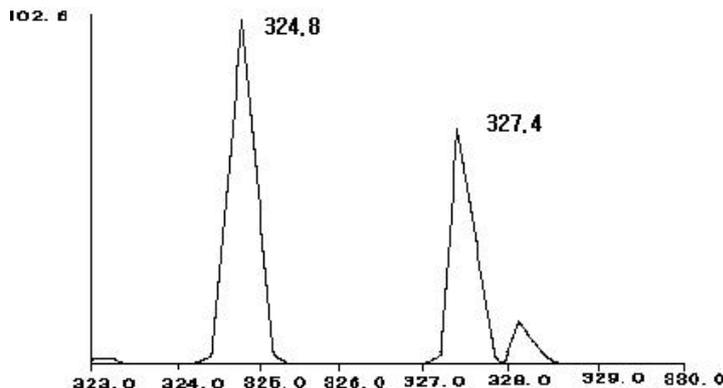
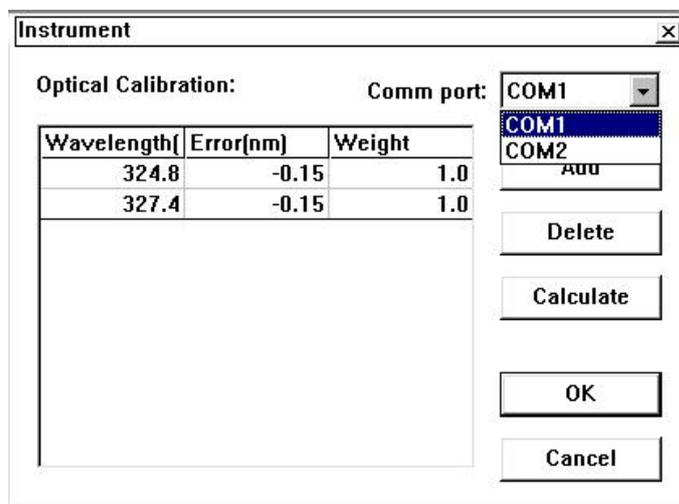

Fig. 6-1
Fig. 6-2
(1) Wavelength displacement. Solving method: Adjusting methods: Power on Cu lamp and set the lamp current to be 3mA. Click “Wavelength scan” key in Fig.4-8, input the voltage to be 230~260V, the wavelength is in the range of 300~350 nm. Scanning interval is 10nm. Scanning will be ended until the graphics are appeared as shown in Fig. 6-1. Move the mouse on to the highest area of the first peak and its actual wavelength value X will be displayed on the screen. Use the formula: $\delta_1=(X-324.8)$ and record δ_1 value to close the program. Refer to Fig. 4-1, click “Help (H) — setting of instrument parameter. Input δ_1 value into Fig.6-2.
The methods are as follows: Click “Add” in Fig.6-2, input the wavelengths of 324.7nm and 327.4nm below the wavelength of the first format. Input δ_1 value calculated above in error and click “Calculation” and “OK”.
(2) Non-linearity wavelength. If some peaks are still not found using the above method, that shows the wavelength is not linear. Adjusting methods are: power on Hg lamp and set the lamp current to be 3mA. All wavelengths of Hg lamp are scanned in turn (253.7nm, high voltage, 200V; 546.1 nm , high voltage: 300V; 871.6nm, high voltage: 400V, the high voltages of other
wavelengths are no more than 500V), record all X values. Modify them in the page of Fig.6-2 according to the wavelength displacement mentioned in the section (1).
- 3) If the top terminal of the graphics scanned has platform, that shows the gain is too high, it should be decreased. If there are many peaks appearing in the graph, even there is a high peak existing, it is not correct. The graphs scanned must be in accordance with Figure 6-1.
① Check if the instrument has been powered on.
② Check if the communication cable between instrument and computer is connected well.
③ Check if the cable plug of the computer is connected correctly (one end of the main unit is connected with the socket of the computer; one end of the computer is connected with “COM2” only serial interface of computer). If all are right, click “Help” and “Instrument parameter set” to enter into the page of Fig. 6.2, change “COM2” into “COM1” at “communication” window. Restart the program of the instrument.
④ Check if $+5\text{VDC}$ voltage on the main board is normal. Computer pin on the main board is connected well.
⑤ Check if The LM323 chip on PC3 board (computer board) is damaged.